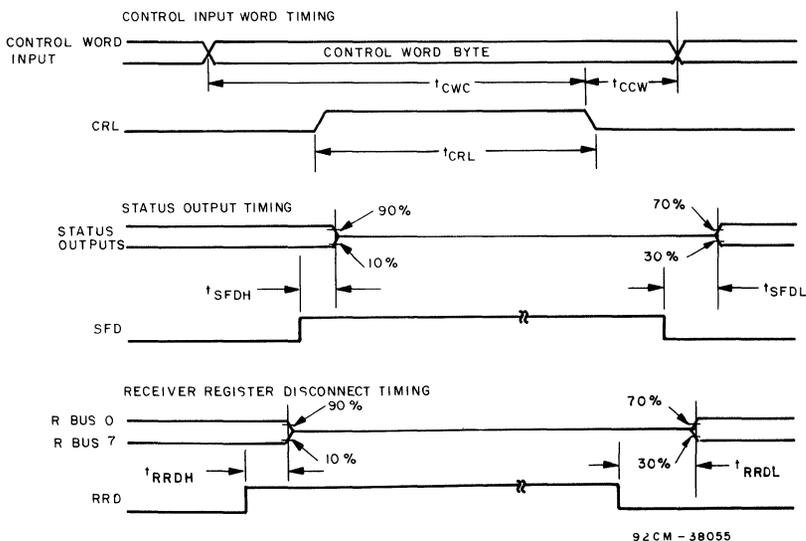

Fig. 6 - System timing waveforms.
**System Timing (See Fig. 6)**